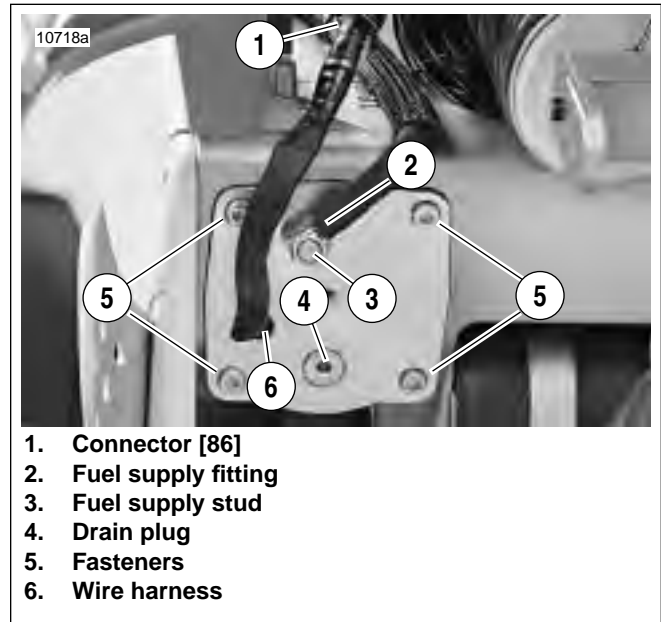

Figure 4-99. Fuel Pump Wire Harness Location
3. See Figure 4-99. Remove terminals from fuel pump connector [86].